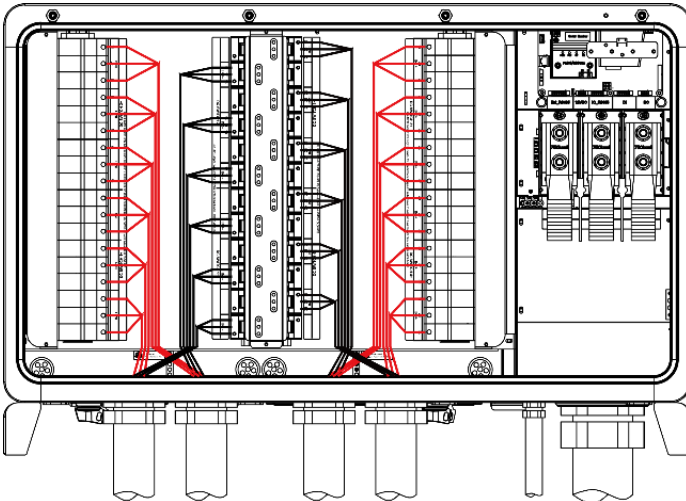
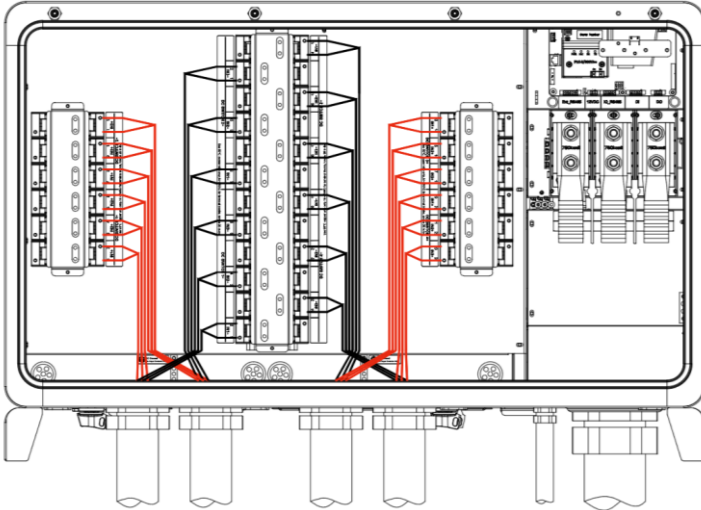

Figure 4-9a Connect the DC cable to fuse holder
Figure 4-9b Connect the DC cable to DC terminal
2. Connect the DC cables to the fuse holders of 36 input inverter as shown in Figure 4-9a; or connect to the DC terminals of 24 input inverter as shown in Figure 4-9b, and then tighten the screws.